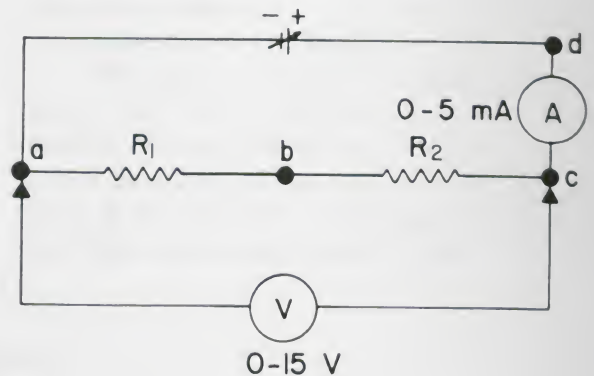

Figure 29.
1. Wire the circuit shown in Figure 29. The resistors  $R_1$  and  $R_2$  are connected "in series" which means "one after the other," with the same current flowing through each. (Suggested values:  $R_1 = 500\ \Omega$ ,  $R_2 = 1000\ \Omega$ .) Hook up the voltmeter to points  $a$  and  $c$ . Switch on the power supply and use the pot to increase the voltage until the deflection on one of the meters reaches its maximum value. Keep the voltage supply fixed at this value.